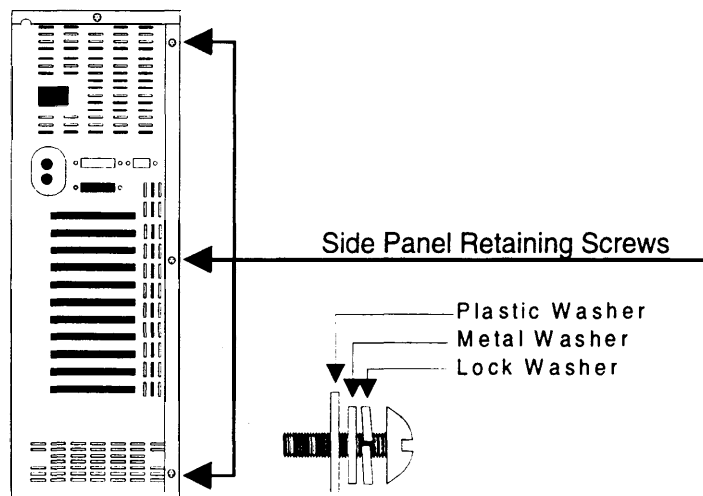

Figure 3-13. Side Panel Retaining Screw Locations
2. Remove the three side panel retaining screws as shown in Figure 3-13.
If the washers come off of the retaining screws, they should be replaced as shown in Figure 3-13 with the lock washer first, then the metal washer, and finally the plastic washer.